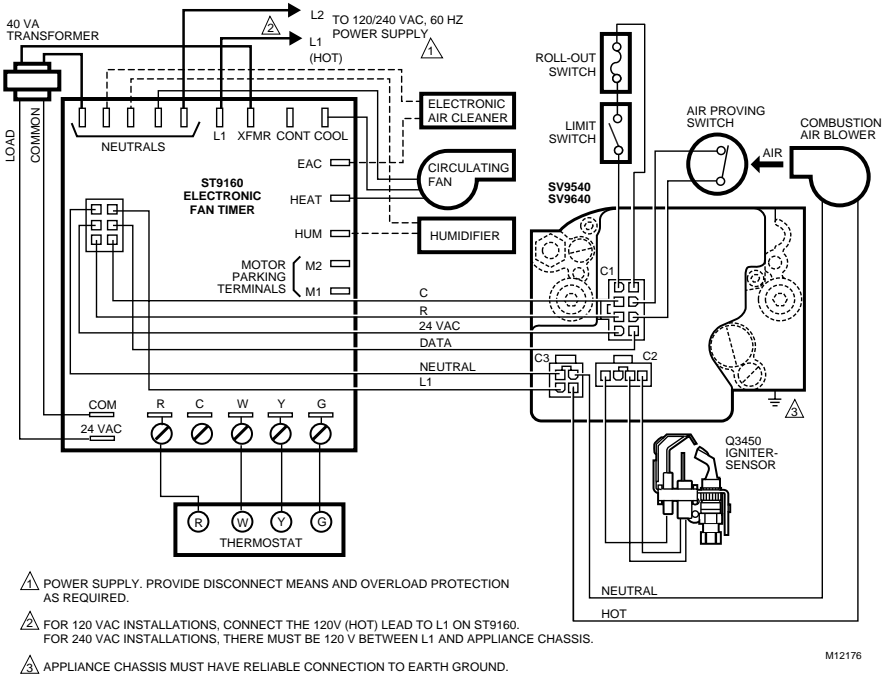

Fig. 7. SV9540; SV9640 typical wiring connections in fan assisted warm air furnace with ST9160 Electronic Fan Timer.
4. Connect control circuit to the ignition system control using the keyed connector. See Fig. 7 through 10.